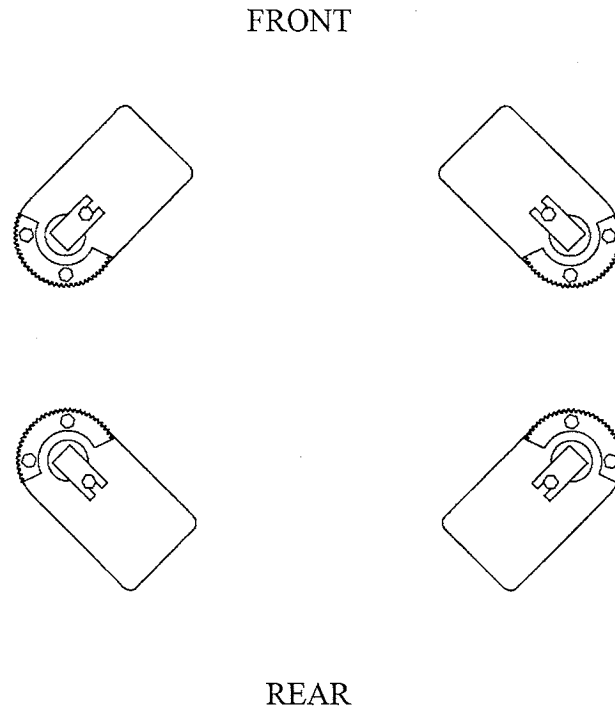

Figure 7 – Arm Installation
1. Remove the four (4) 5/16"-18UNC x 3/4"LG. hex head bolts that are holding the arm pins to the arm. Install the arms on the carriages.
3. Using two (2) 5/16"-18UNC x 1 1/4" LG. hex head bolts, attach each arm lock gear as shown in **Figure 7**.